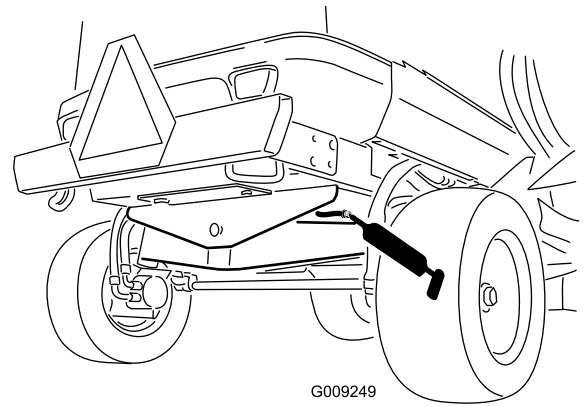

Figure 82
- 1 rear axle-pivot bushing (Figure 82)